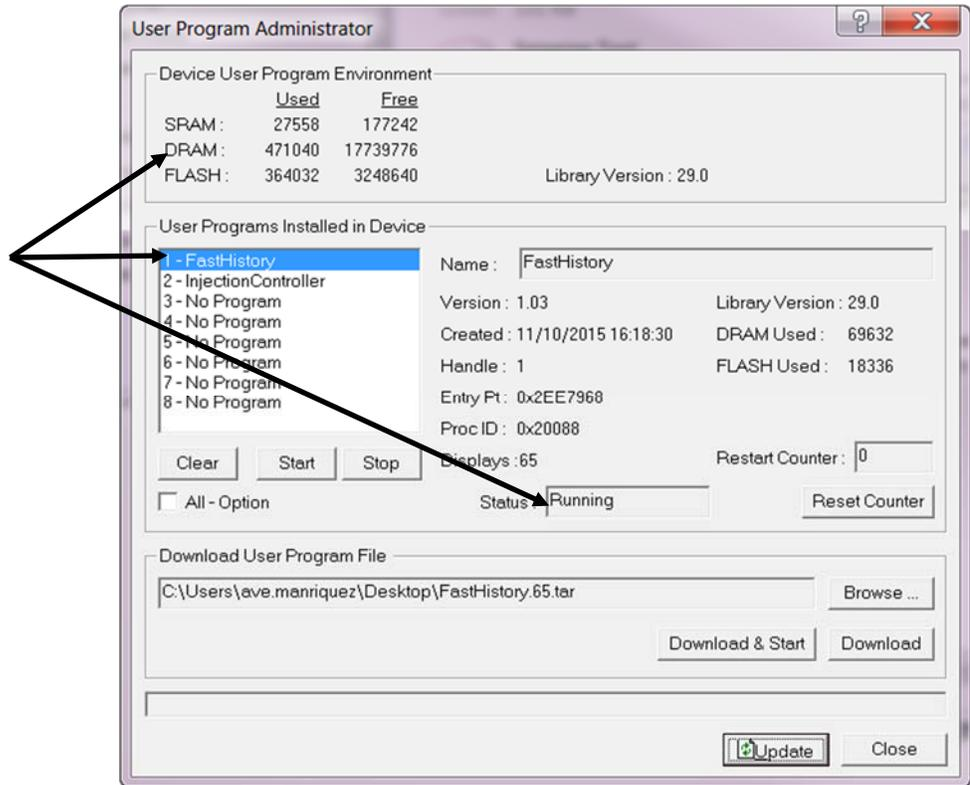

Figure 9. User Program Administrator
10. Click **OK**. The User Program Administrator screen displays (see *Figure 9*). Note that: